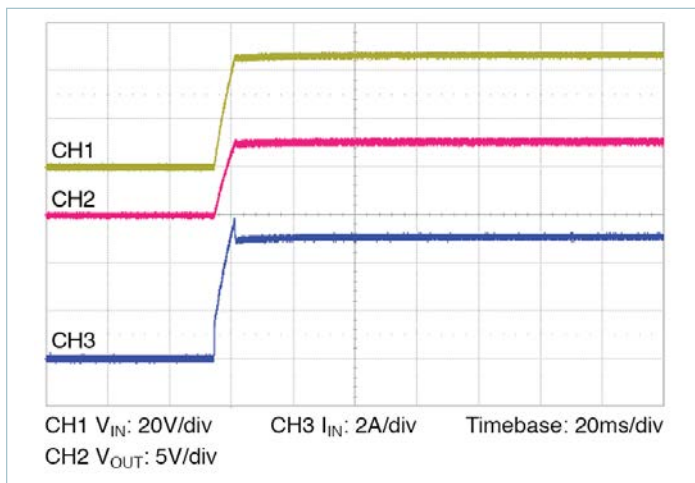

Figure 13 — Start up from application of V_{IN} ; VC pre-applied $C_{OUT} = 2300\mu\text{F}$
- **Normal operation (VC applied prior to V_{IN}):** In this case the controller is active prior to ramping the input. When the input voltage is applied, the VTM module output voltage will track the input (See Figure 13). The inrush current is determined by the input voltage rate of rise and output capacitance. If the VC voltage is removed prior to the input reaching 26V, the VTM may shut down.